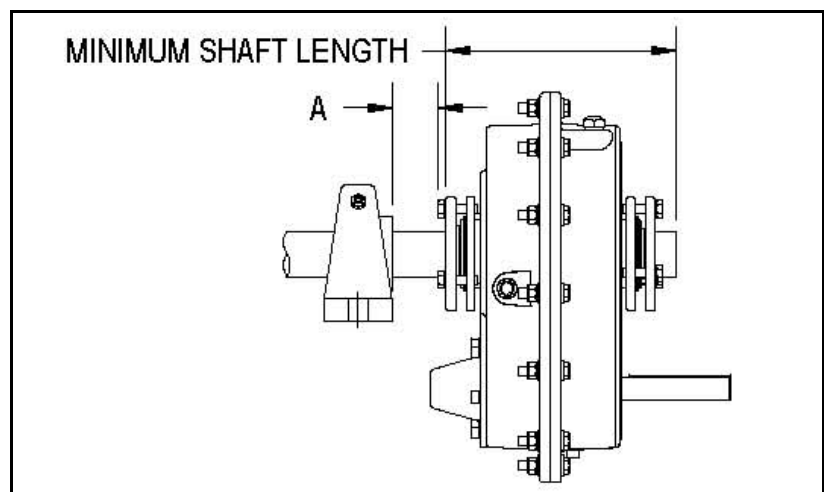

Figure 3.7 Minimum Recommended Dimensions
- The long bushing is designed to be installed from the side of the reducer opposite the driven equipment as shown in Figure 3.7. The long bushing when properly installed is designed to capture the end of the shaft that does not extend through the reducer. Normally the reducer would be mounted such that the input shaft extends from the side of the reducer opposite the driven equipment however the reducer design allows installation of the reducer to be mounted in the opposite direction.
- Install the tapered bushing wedge into the hollow bore of the reducer from the same side as the long bushing will be installed. When installing the tapered bushing wedge into the reducer hub, install the flange end first so that the thin taper is pointing outwards towards the long bushing as shown in Figure 3.7. The wedge is properly installed when it snaps into place in the reducer hub.